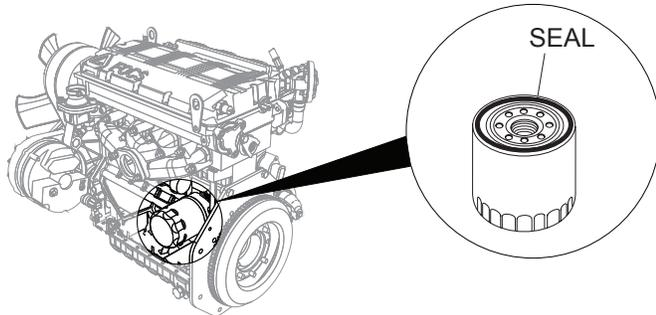

Figure 20. Oil Filter Replacement
1. Replace the engine oil filter (Figure 20) every 200 hours.
2. Always coat the seal of a new oil filter with clean engine oil (Figure 20).